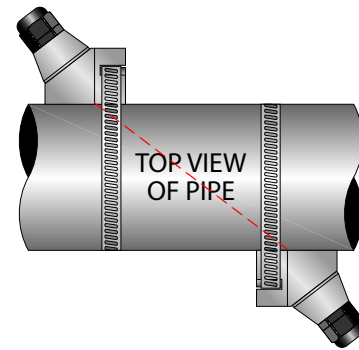

Figure 25: Z-Mount transducer placement
The DTTR, DTTN, DTTH and DTTL transducers must be properly oriented and spaced on the pipe to provide optimum reliability and performance. On horizontal pipes, when Z-Mount is required, the transducers should be mounted 180 radial degrees from one another and at least 45 degrees from the top-dead-center and bottom-dead-center of the pipe. See Figure 25 on page 24. Also see “Z-Mount Installation” on page 23. On vertical pipes the orientation is not critical.
7. Place the downstream transducer on the pipe at the calculated transducer spacing. See Figure 25. Using firm hand pressure, slowly move the transducer both towards and away from the upstream transducer while observing signal strength. Clamp the transducer at the position where the highest signal strength is observed. A signal strength percentage between 10...98 is acceptable.